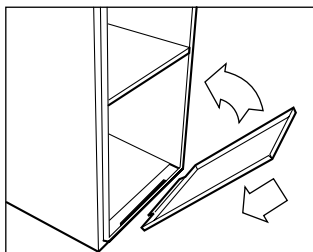

**Fig. 34 - Replace Side Filter Cabinet Door**
8. Replace blower access panel and main furnace door (Fig. 32 and 33.) or filter cabinet door. (Fig. 34 and 35.)